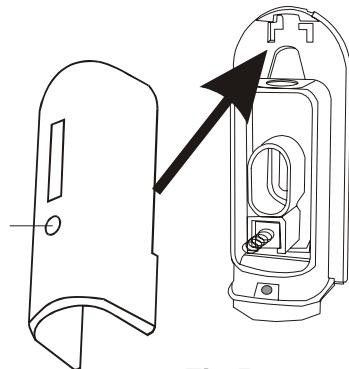

Fig.5
- Close the cover and fasten with appropriate screw (see Figure 5).